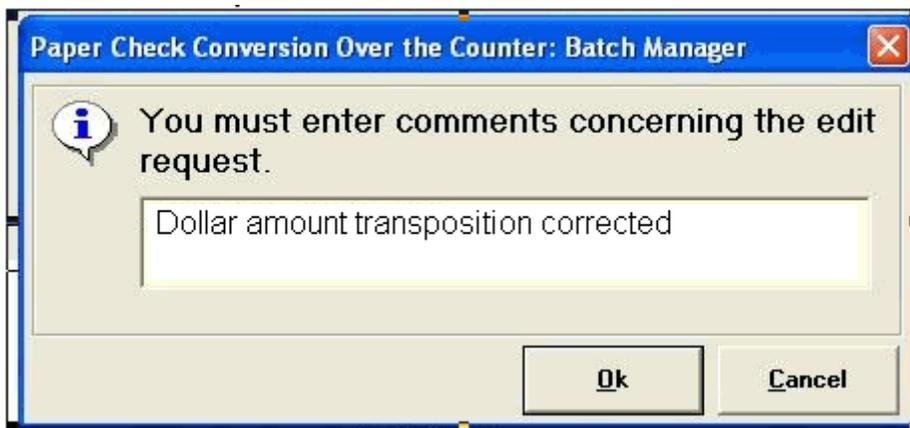

Figure 4.19
6. Enter comments regarding the reason for editing the item (Figure 4.19) and click **'Ok'**, You can also print a receipt prior to clicking the **'Close'** button by clicking on the **'Print Receipt'** button. When finished, click **'Close'**.